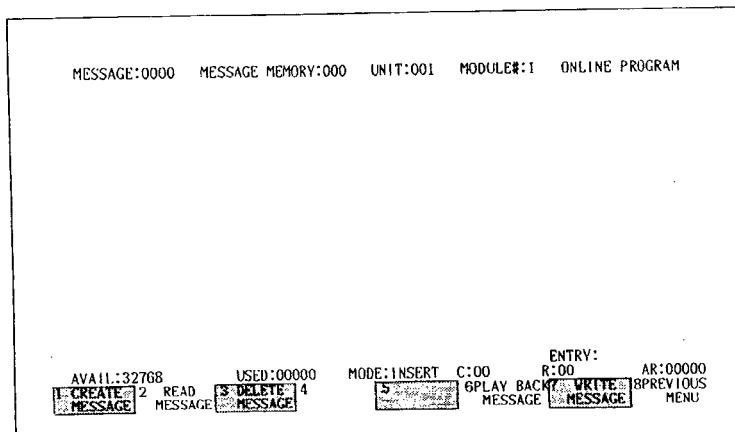

Fig. 7.52 Text Display
Depressing **PROGRAM** in the supervisory display (Fig. 7.18) calls up the TEXT display (Fig. 7.52) to enable the text processes displayed in the label area.
- (5) Depressing **EDIT** key calls up the text display (Fig. 7.52) again. However, the message remains displayed in the ASCII message area.
- (6) Depressing **WRITE
Depressing **CONFIRM** key causes the displayed message to be stored in the ASCII module memory. Depressing **CANCEL** key merely calls up the text display (Fig. 7.52) again.